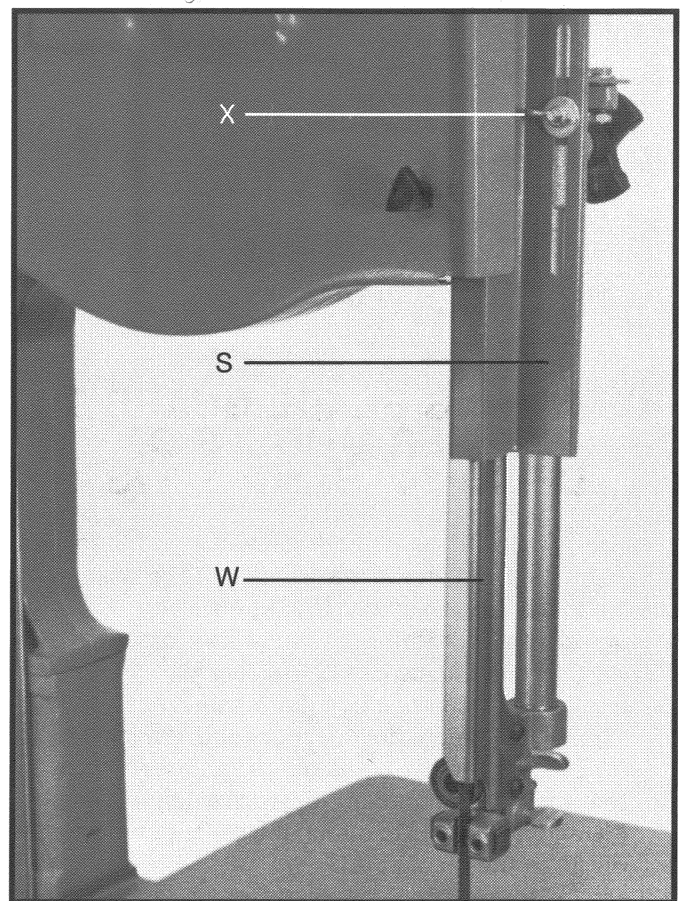

Fig. 13
13. The guard assembly (S) Fig. 13 covers the blade where the blade guard (W) does not. Loosen the wing nut (X) Fig. 13, adjust the guard assembly (S) up or down, and tighten the wing nut.